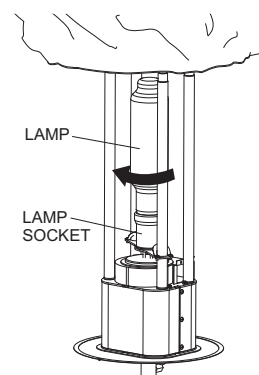

Figure 39. Installing New Lamp
6. Install new lamp into socket and turn lamp in a clockwise direction until tight. See Figure 39.